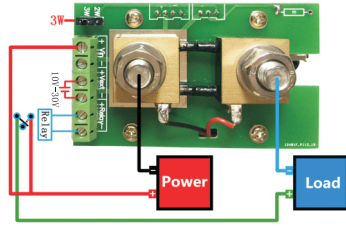

Figure 3 Three-wire connection Relay wiring diagram
- Check the wiring is in accordance with the wiring diagram shown in Figure 3. The positive terminal of the power supply is connected to the measuring board Vin+, and the negative terminal of the power supply is connected to the left large screw on the measuring board; the negative terminal of the load is connected to the right large screw. The control terminal of the relay needs to be connected between the positive terminal of the load and the positive terminal of the power supply. Vext. needs an external power supply to power the meter, the external power supply voltage should be DC10V - 30V. The "relay" place connects to the relay, and the voltage of the relay needs to match the voltage of the external power supply.